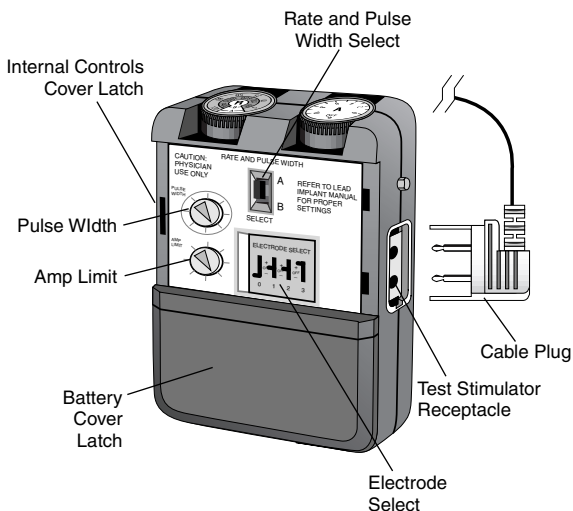

Figure 5. Model 3625 Test Stimulator Internal Controls.
3. Verify that the test stimulator output (Amplitude) is turned to Off, then push the plug on the test stimulator end of the cable into the output jack of the test stimulator (Figure 5). Note the correct plug orientation, with the cord pointing up. **The plug fits in one way only.** Refer to the Model 3625 Test Stimulator Operator Manual for detailed instructions on utilization.
4. Remove the Internal Control Cover and set the Internal Controls (Figure 5) as follows:
4. Proceed with the test stimulation. Refer to steps 4-6 of Test Stimulation with the Alligator Clip Screening Cable starting on page 25 for stimulation parameter recommendations. **All four electrode switches are active with the twist-lock cable.** Electrode selection and activation is controlled by the switches on the back of the Model 3625 Test Stimulator (refer to Figure 5 on page 25).